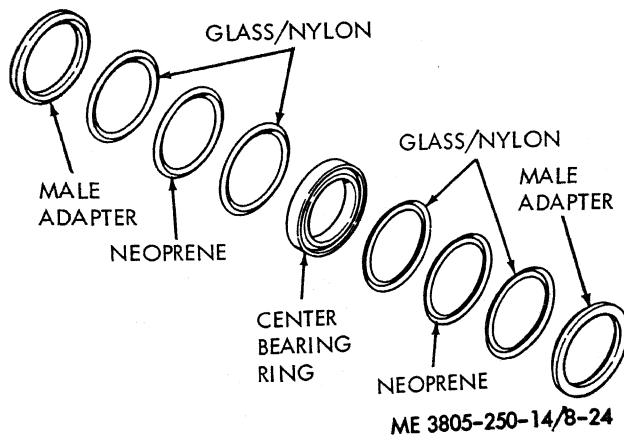

Figure 8-24. Piston packing installation.
(2) Assemble piston (9) as follows:
(a) Dip the packing parts in hydraulic fluid. Install the male adapter and nylon, neoprene, then nylon chevron rings (11) in each piston half. The vee of the rings must point to the center of the piston. Refer to figure 8-24.